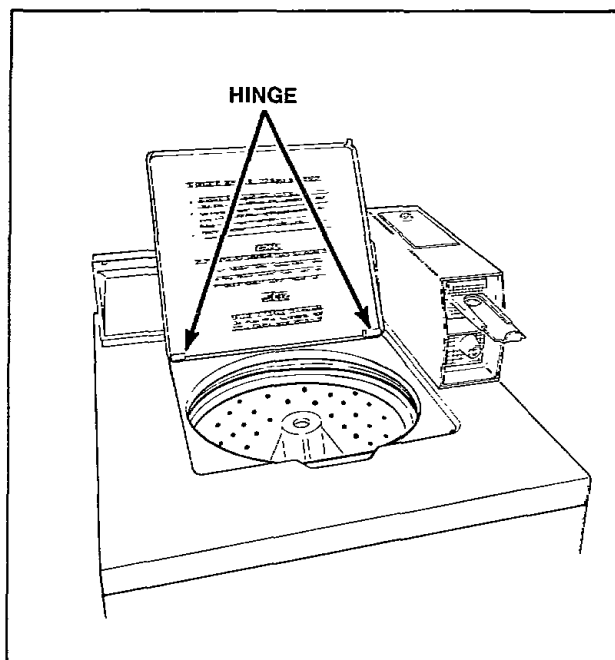

Figure 11
10. LOADING DOOR (Refer to *Figure 11*)